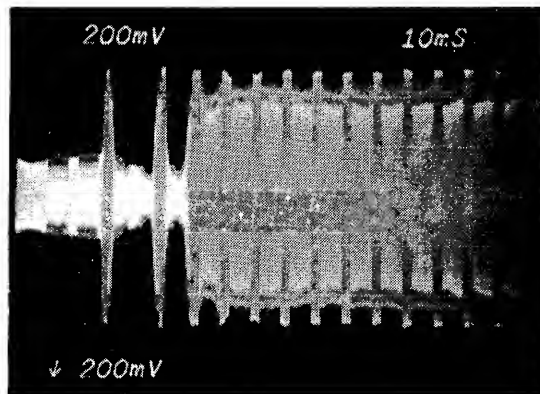

FIGURE 7 HEAD LOAD ACTUATOR TIMING
- e. Energize the Head Load solenoid and observe the read signal on the oscilloscope. The signal must be at 50% of full amplitude by 50Msec. Reference Figure 7.